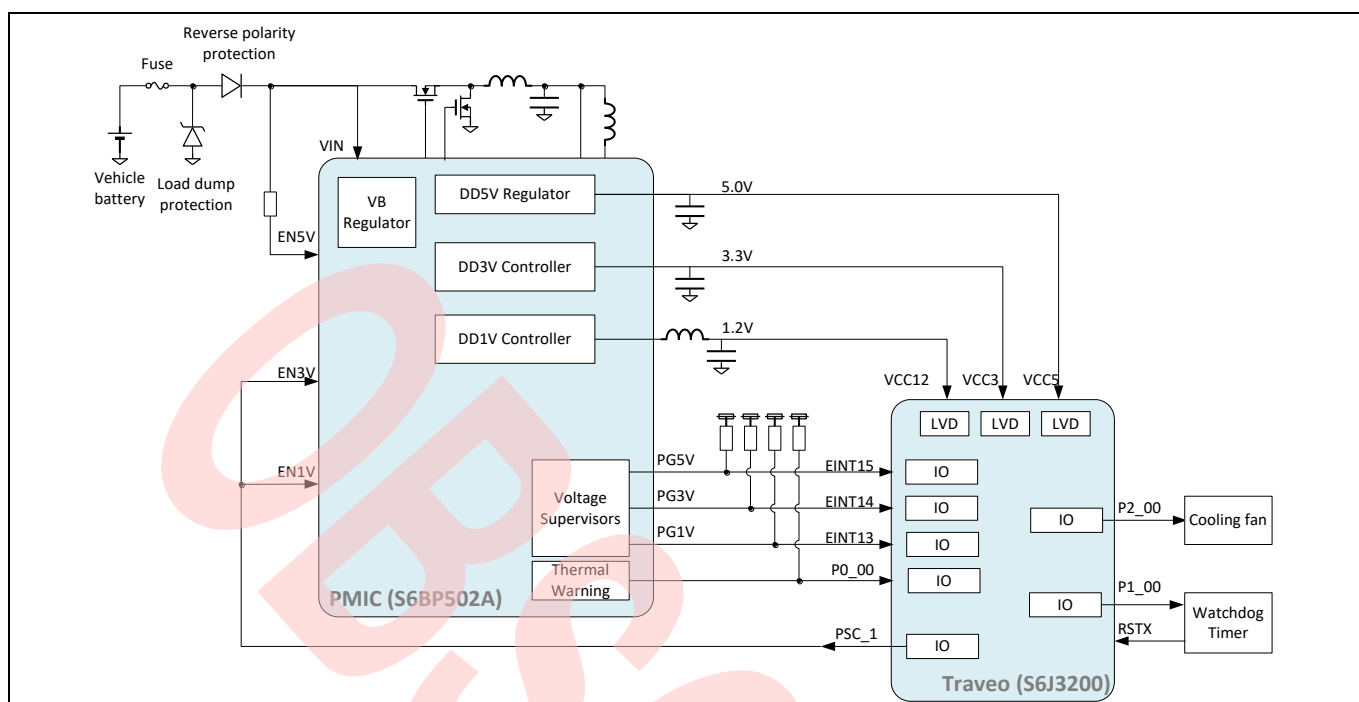
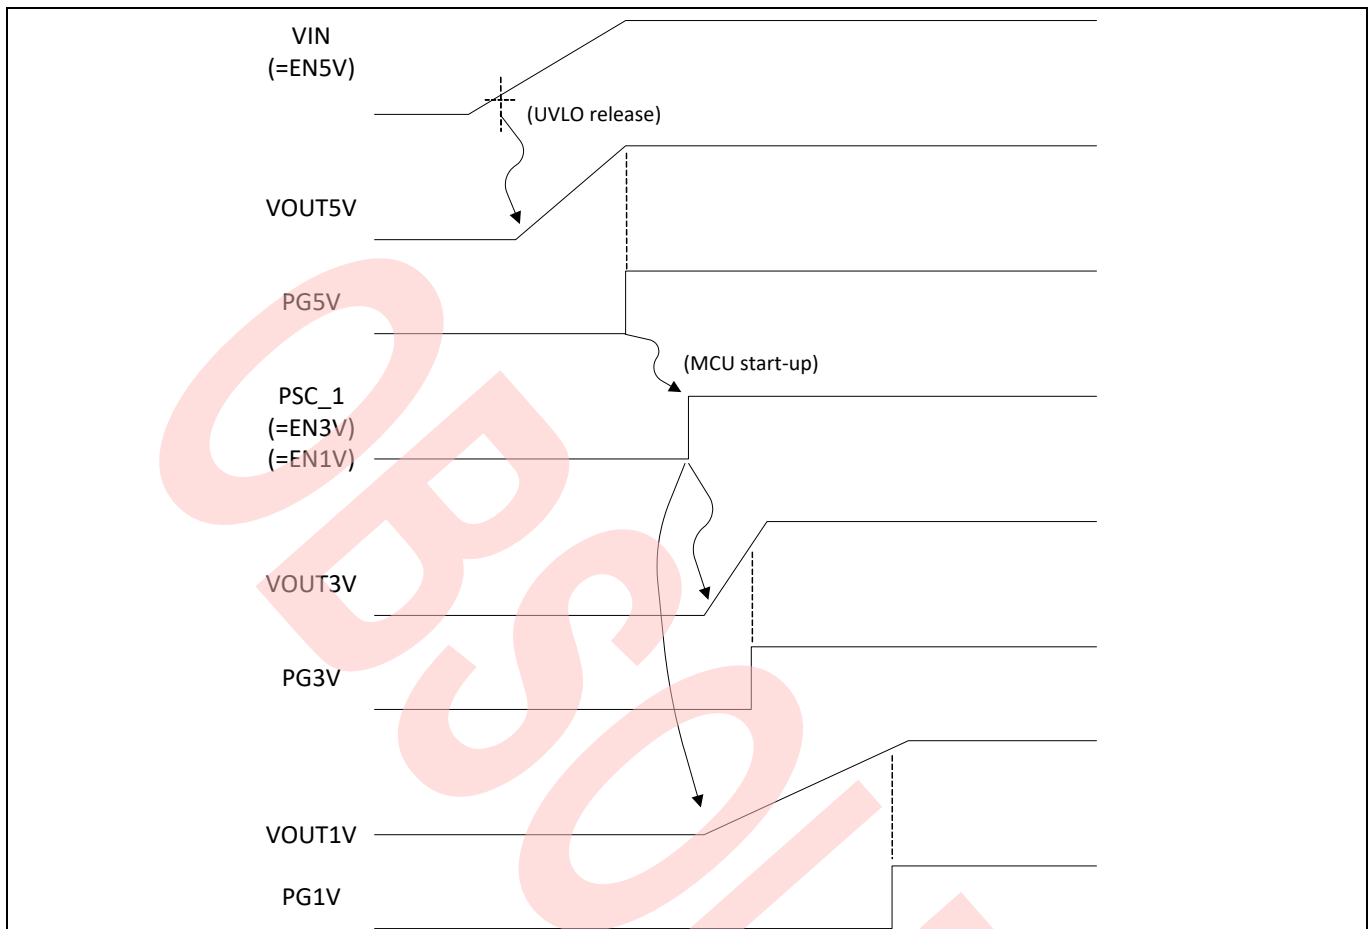

Figure 3 Implementation example with S6BP502A and Traveo S6J3200
Figure 4 Power-up sequence
An instrument cluster system is taken as an application example of interest. As illustrated in **Figure 1**, the instrument cluster comprises speedometer, gas gauge, tachometer, coolant temperature gauge, gear position indicator, telltales and a color TFT LCD. **Figure 2** depicts a block diagram of the system where the S6BP series PMIC and Traveo family MCU are used. An implementation example with S6BP502A and Traveo S6J3200 MCU is shown in **Figure 3**. Note that the bypass capacitors for Traveo MCU are not illustrated; refer to the Technical Reference Manual of the Traveo family for the requirements for bypass capacitors.
Enable (EN) terminals should be controlled by PG or by the Traveo MCU to configure an appropriate power-up sequence for the system. Figure 4 illustrates the power-up sequence configured in Figure 3. When the input voltage (VIN) becomes higher than the UVLO threshold, the VOUT5V is being charged up gradually with the soft-start mechanism. The charge-up completion of VOUT5V is communicated to the Traveo MCU with the PG5V signal, starting the initialization. At the end of initialization, the Traveo MCU asserts PSC_1, which is connected to EN3V and EN1V, to power up VOUT3V and VOUT1V.
Because the Traveo MCU plays an important role for safety, its hang-up or malfunction must be detected and handled properly to bring the system into a SysSafe state. To detect failures of the Traveo MCU, the system must equip a watchdog timer independent of the Traveo MCU. In Figure 3, a dedicated watchdog timer is installed in the system, but you can use the one integrated in S6BP series PMICs. See Table 1 to find which device provides a watchdog timer.